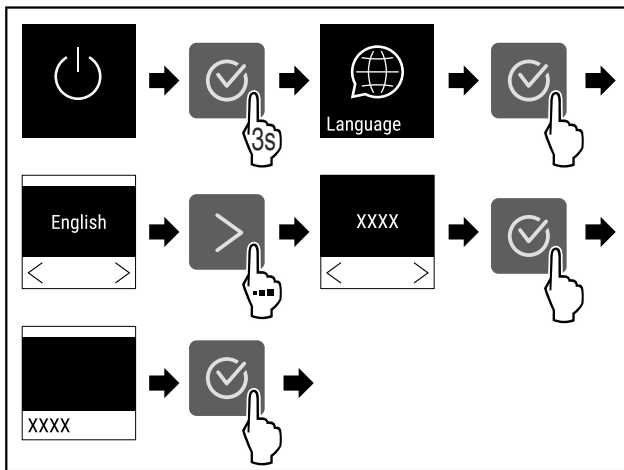

Fig. 50
- Complete steps (see Fig. 50).